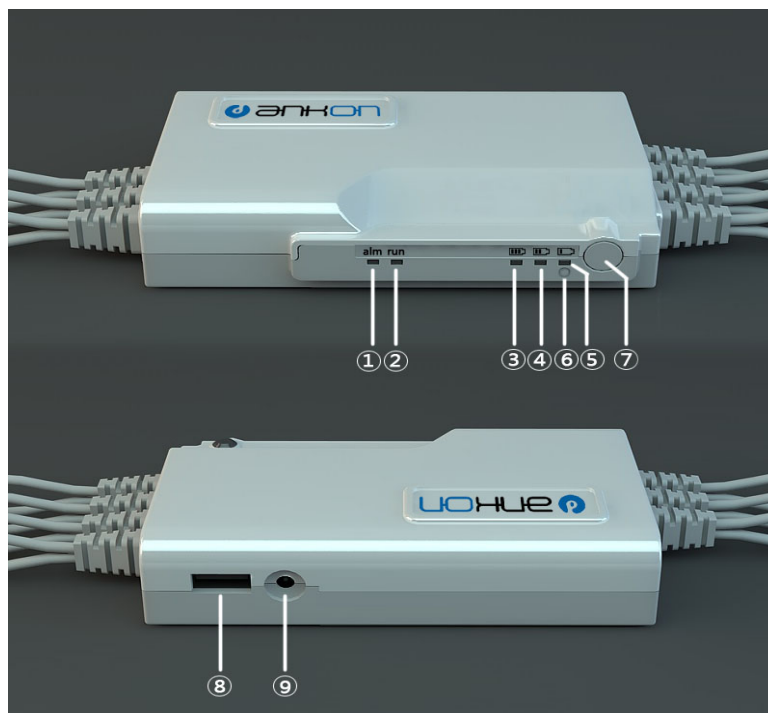

Figure 6-3 AKR-1 Data Recorder Operation Manual
Related marks and position of power switch, USB interface, LED, keys on the Data Recorder are shown in Figure 6-3.
Hold down the power switch without releasing until all the five LEDs (marked as ①②③④⑤ in Figure 6-3) are lit up to power on the Data Recorder normally. Click the related button in the ESView to power the Data Recorder off. If the Data Recorder is not connected to the computer via USB, and therefore no capsule information is detected for a consecutive 15 minutes, it will automatically power off to save energy. If the yellow LED alarm indicator (marked as ① in Figure 6-3 with word “alarm” under it) is always on, it indicates that no capsule is detected. If on/off continues flashing, it indicates that the capsule is present, however the upper-level software has not yet issued a command to let the capsule capture images. The green LED run indicator (marked as ② in Figure 6-3 with word “run” under it) will be lit up once it receives the image information from the capsule and off again quickly; it will light up again once it receives the next image information and then off again. The received image information captured by the capsule will also be marked accordingly.
The green LED battery capacity indicators (marked as ③④⑤ in Figure 6-3, with battery capacity icon under it, three lattices, two lattices and one lattice specifically) indicate current battery capacity. It is 90% when ③④⑤ LEDs are all lit up, more than 70% when ④⑤ LEDs are lit up, and 40% when ⑤ LED is lit up. If only ⑤ LED is on/off flashing, the remaining battery capacity is very limited. If the Data Recorder is powered on and being charged,
these three LEDs will be on and off flashing in a cycle manner. If the white LED charge indicator (marked as in ⑥ in Figure 6-3) keeps lighting up, it indicates that it is under charging (it will be lit up once it is charged regardless of the status of the Data Recorder power). The white LED will automatically turn off when fully charged.